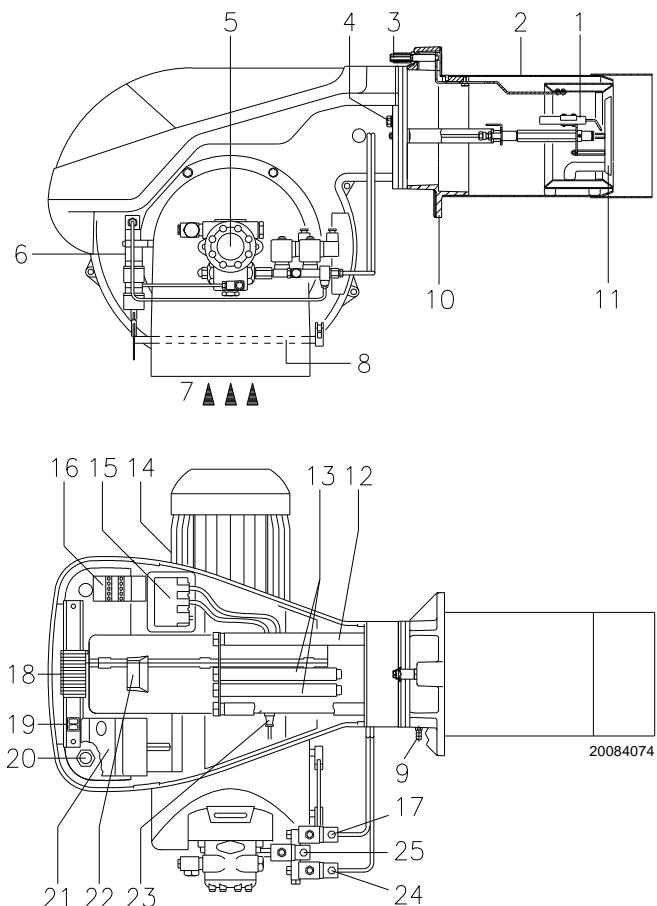

Fig. 1
**Control box lock-out:** if the control box 22(Fig. 1) pushbutton (red led) lights up, it indicates that the burner is in lock-out. To reset, hold the pushbutton down for between 1 and 3 seconds.
**Motor trip:** release by pressing the pushbutton on thermal cut-out 17)(Fig. 1).
- 2 - Extensions 13)(Fig. 1) for slide bars 12)(Fig. 1)